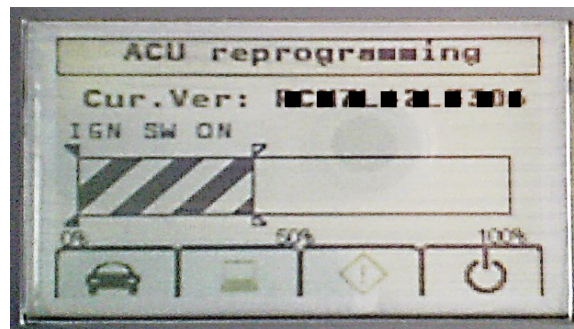

Figure A7
- **If reprogramming is required**, reprogramming will begin automatically. A progress bar will be displayed showing the percent complete, and the car icon will flash during the reprogramming process (see Figure A7).